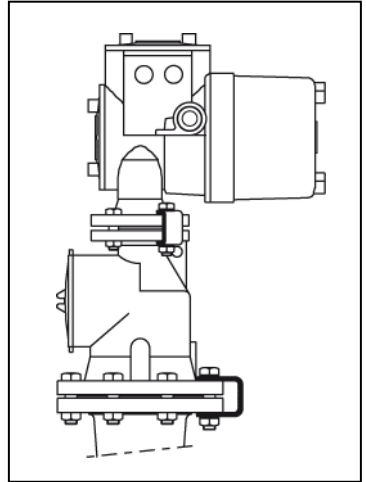

Figure 3 Example of flange ground
*Place shark rings between flange and strip (figure 3).*